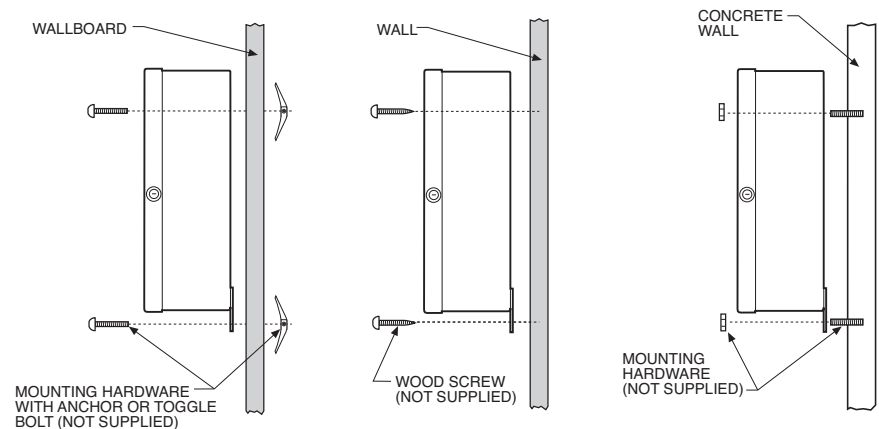

Figure 1. Power Supply Mounting
5. Refer to Figure 1. Drill holes in the mounting surface (two of the mounting holes are inside the unit). Use the unit as a template.